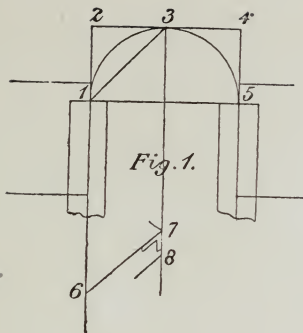
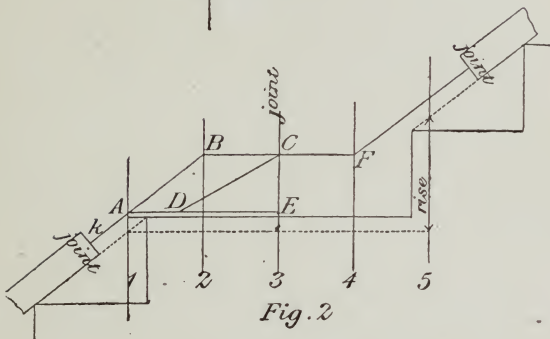
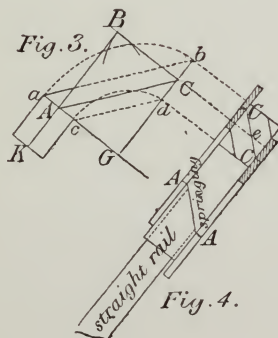

Fig. 1.
Fig. 2.
Fig. 3.
1. FIGURE 1 shows a practical method of describing a semi-ellipse on the principle of the trammel, but without making use of that instrument.
Draw the diameters, or *axes*, of the proposed ellipse, intersecting each other at right angles in the point 1. Then take a slip of stiff paper, or a thin straight edge (as Fig. 1*a*), rather longer than the half major axis of the ellipse, and mark the point A near one end of the slip. Take thereon the length A B, equal to half the minor axis, and the length A C, to half the major axis of the ellipse. In order to find points through which to draw the curve, place the point B of the straight edge on the major axis (Fig. 1), and the point c on the minor axis. Then by carrying the slip round with the points B and c always on the axes, and marking a point at A each time the slip
2. Suppose, however, that instead of the diameters, or axes, of the ellipse being given, we have two points on the curve, as A and D, and also the centre I and the length of the minor axis only given, from which data it is required to determine the length and direction of the major axis. Then the foregoing method of drawing an ellipse suggests a ready way of doing this. For instance, provide a *square*, as H J K L (Fig. 1*b*), of any stiff thin material, and at or near the middle of the side J L, draw the line I G at right angles to J L. Place this square with the point I to the given centre I of the required ellipse (supposing of course that the diameters and curve are not there), and lay the line J L of the square as nearly as possible in what is *supposed* to be the direction of the required major axis. Now apply A B, the given half minor axis (on the slip Fig. 1*a*), from the two given points A and D, making the points B on the slip to lie upon the edge J L of the square at B and E. Prolong A B and D E from each point to cut I G in C and F. Then if A C and D F are equal, J L is the direction of the major axis, and A C or D F will be its half length.
We will suppose that Fig. 1 is drawn to a scale of $\frac{3}{4}$ -inch to a foot, when the major axis will measure 2 feet, and the minor axis 1 foot 4 inches, half of which will be 12 inches and 8 inches respectively. Lay down the centre and the two points A and D at their relative distances from each other, full size. Place the square with the end of the line in the middle to the given centre, then apply a rule from the points A and D, being careful to let each point be in an exact line with the edge of the rule. Lay the square so that 8 inches measured from each point, as directed, shall be exactly over the end J L, and the rule will cut the line in the middle at 12 inches from A or D.
3. Fig. 2 shows how to obtain the angle for mitreing the rail into a newel cap. The section on the edge of the cap should be the same as the rail to be mitred into it. Draw a section and plan of the rail, also draw the plan of the circumference of the cap. Then take the greatest distance to which the moulding is worked on the under or upper side of the rail, as
4. Fig. 3 shows a method of cutting the mitre in the cap by using a piece of scantling one side of which is planed true. Draw a line in the centre of the width, and on each side of it set off the distance 1, 2 (Fig. 2). Then make a cut with a saw to these last two lines, and mark the width of the rail on the extreme edge of the cap, which should then be fastened to the scantling by driving a screw through the centre line into the centre of the cap.
Fig. 1 is the plan of a well-hole of a staircase, with straight flights above and below the landing. The rail is shown the whole width up to the springing line of the curved part; beyond that the centre only is laid down with the tangents to the half circle, 1, 2, 3, 4, 5, and the diagonal, 1 3. The riser lines, landing, and starting are not drawn to the centre of the circle: the distance from riser landing to 2, and from 4 to riser starting, is made equal to half the *going* or tread of one step. By this arrangement the rail has a
Fig. 2 is the development, or stretch-out in elevation, of the centre line and tangents of Fig. 1. Draw the landing with a step above and below, erect the perpendiculars to coincide with the points 1, 2, 3, 4, 5, of Fig 1. The distances from 1 to 2, from 2 to 3, and so on, will then be equal in each figure. Draw the under side of the rail resting on the angles of the flyers, and at the distance of half the thickness of the rail draw the centre line, and continue the upper one downwards to cut the vertical line 4 at F; continue the lower one upwards to cut the vertical line 2 at B, and draw the horizontal line B F. The centre joint at c will be vertical, owing to B F being level. Draw the upper and lower joints square to the centre line. From A, where the centre pitch cuts the vertical line 1, draw A E horizontal. From E set off E D equal to the diagonal 1 3 (Fig. 1). Draw D c, then this line will be the diagonal for the mould, and when placed to its proper pitch on the plan, will lie over 1 3 from end to end.
Fig. 3 shows the method of drawing the mould. Make A B (Fig. 3) equal to A B (Fig. 2), and draw B C at right angles to B A and equal to B C (Fig. 2). Then A c, the hypotenuse of the right-angled
triangle ABC , is equal to DC (Fig. 2). Prolong the line AB until the distance AK (Fig. 3) is equal to the distance Ak (Fig. 2). Draw the end of the mould square to AB ; through A and C draw AG and CG parallel to BC and AB respectively; G will then be the centre of the elliptic curves of the mould. The line BC being level, the angle B will be square, the bottom end of the mould will therefore be square, and the same width as the rail. Draw the width of the rail parallel to AB . To find the bevel and width for the top end, take AB (Fig. 3) in the compasses, and with one foot at any point 6 (Fig. 1) on centre line of rail, draw the arc cutting the centre line of well-hole at 7. Draw 6 7, and this gives the bevel. Parallel to 6 7 set off half the width of the rail, and 7 8 will be half the width of the mould. Repeat this distance on each side of c (Fig. 3), and this gives the point to which we have to draw the quarter-ellipses of the mould. Or, ac being the width of the rail, the lines ab , cd , drawn parallel to AC , will give bd its width at the centre of the wreath; and Ga , Gb will be the semi-axes of the ellipse for the outside of the rail, Gc and Gd the semi-axes of the ellipse for the inside. BC being level, AG and CG will be the directions of the diameters. G is the centre coinciding with the centre of the half circle in
Fig. 1. Therefore from G to the inside and outside of the mould on each diameter will be half the shorter and half the longer axes respectively. If now we mark off these distances from the end of a thin straight edge, and carry it round, keeping one of the points on each diameter (as shown by Fig. 1, Plate I.), any number of points can be obtained through which the curves of the mould may be correctly drawn. Draw the lines A B and B C opposite each other on both sides of the mould, and square the springing A G across the inside edge. This will mark the termination of the straight part and the commencement of the circular, and will be made use of when the mould is applied to the plank. Both the half wreaths being alike, there is no necessity to get out a separate mould for the upper one.
The lines *AB* and *BC* should be drawn on both sides of the piece, to coincide with those on the mould when the edges of both are even. Square *c* across the centre joint, as shown by the dotted line, and through the centre *e* of the thickness draw the bevel *cc*, the same as found at 6 7 (Fig. 1). From *cc* (bevelled line) draw another line on the face of the piece parallel to *BC*. Slide the mould on the top side upwards, so that the point *c* may be moved from the square dotted line until it lays over *cc*, the bevelled line, keeping *AB* on the mould over its corresponding line on the piece.
Both wreaths being bevelled as above, the easing may be roughly made, that is, some of the superfluous stuff may be taken off at top and bottom; or, in other words, the wreaths may be roughly squared, but should not be finished until the joints have all been made and bolted together. For the lower joint a bevel should be set with its stock to the under side of the straight rail (Fig. 2), and the blade made to coincide with the vertical or springing line, $l A$, or the hypotenuse and rise of the pitchboard. Then, in applying this bevel, hold the stock to the under side of the straight rail, and make the joint so that the springing line on the wreath shall coincide with the edge of the blade.
To make the centre joint, a three-inch plank should be used, one side planed true and the edges shot square. The width should be equal to the distance between the inside edges of the rail in Fig. 1. Ascertain how much the rail rises on the under side from 1 to 5 (Fig. 1), as shown on Fig. 2. From the point where the under side of the rail cuts the vertical line 1 A, square over to the vertical line 5; then from this point to that where the under side of the upper rail cuts the same line will be the rise of the rail on the springing from 1 to 5 (Fig. 1). Mark this rise on the face of the plank. Take the first wreath, and plane the joint square to the line B C and face of the stuff. Handscrew this wreath to one edge of the plank, making the springing line to coincide with the face. Place the point where the under side of the lower rail cuts the springing to the bottom line on the plank. Then take the top wreath and hold it to the opposite edge of the plank. Keep the springing to the face, and fit the joint until the point where the upper rail cuts the springing is brought to the second line, or
The annexed figures, A and B, show the plank with a pair of wreaths as applied to it when jointed up at the centre joint. Fig. A is the plan with end of plank shaded and the wreaths going round the face in a semicircle. Fig. B is an elevation of the face side of the plank with the wreaths in position, the straight part of the lower wreath on its under side being placed to the line *a*, and the straight part of the upper wreath—also on its under side—being placed to the line *b*, the distance between *a* and *b* being equal to the rise as shown in Fig. 2, Plate II. This will be found to be a most expeditious and correct method of making the centre joint in a pair of wreaths, however large or small the well-
7. In the example we have just been considering (Plate II.) the rise and going of the treads and the width of the well-hole are such that the raking centre lines of the rail cut the perpendiculars 2 and 4, Fig. 2, in points B and F at the same distance above the landing, and by joining
these points as directed, a perfectly horizontal line is produced which is the one required. This may not be the case once in ten, or even a larger number of times, with plans of a similar description. If the riser lines of this plan were placed at the springing, the point B in Fig. 2 would be higher and point F lower than is there shown to be the case; and if these two points were so placed and connected by a straight line, it would be considerably out of the horizontal, and consequently the pieces for the wreath would be thrown out of their proper position. A novice in this kind of work finding this to be the case might be at a loss to know how to proceed, and might probably condemn the system as being incorrect.
rail should always cut the central horizontal line, drawn at its proper height above the landing, in the perpendiculars 2 B and 4 F, as shown in Fig. 2, Plate II.
Fig. 1 represents the plan of such an arrangement, and the whole width of the rail is laid down to the springing lines of the curve. In the quarter circle the centre only of the rail is drawn, and this is enclosed by the tangents 1 2 and 2 3.
Fig. 2 is the development, or stretch-out in elevation, of the centre line and the tangents of Fig. 1. Draw the vertical lines at the same distance from each other as the points 1, 2, 3 of Fig. 1; also the risers as they occur on the centre line, and the tangents of the plan, with the flyers above and below.
The diagonal for the mould is obtained as before described. Thus from the point A, where the centre pitch cuts the springing, draw A E square to 1 A. From E set off E D equal to 1 3 (Fig. 1), and draw D c. Then D c will be the diagonal sought.
To find the bevel and width for the upper end of the mould, draw Aa at right angles to Bc , and with the distance Aa as a radius, and the point 4 (Fig. 1) anywhere on the middle line of the rail as a centre, draw an arc cutting 15 at 5 . Join $4, 5$; then this will be the required bevel. Parallel to 45 , set off half the width of the rail, and 56 will be half the width of the mould. Repeat this distance on each side of Bc (Fig. 3), and draw parallel lines to cut the springing cw in the points M, m .
For finding the width of the lower end of the rail at A , draw cc at right angles to cw ; and with the distance cc as a radius, and any point 7 (Fig. 1) on the centre of the rail as a centre, draw an arc cutting 18 at the point 8. Join $7, 8$; then this will be the required bevel. Parallel to 78 , set off half the width of the rail, and 89 will be half the width of the mould. Repeat this distance on each side of AB (Fig. 3), and draw parallel lines to cut the springing Aw in s and p . Otherwise, by drawing ms and mp parallel to Ac , we find the points s and p on the
This gives the points to which we have to draw the curves of the mould, two for the inner and two for the outer ellipse. The centre w of these ellipses has already been found, and the length of half the shorter diameters or minor axes will be equal to the radii on plan (Fig. 1).
To find half the longer diameter for the outside curve, take the radius for the outside of the rail on plan (Fig. 1) in the compasses, and placing one foot at s (Fig. 3), draw an arc cutting the longer axis at t . Draw stu , then su will be the half longer axis sought.